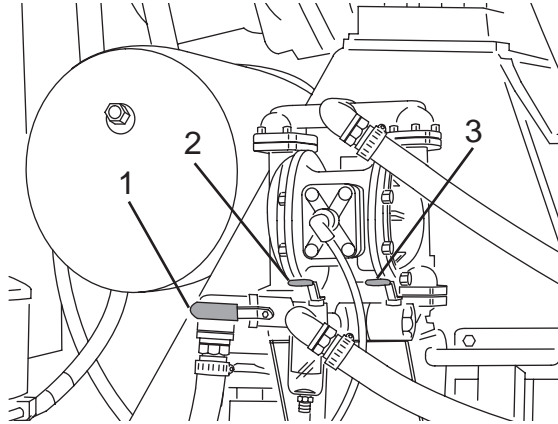

Figure 82
10. Close the main tank ball valve (Figure 82, Item 2) and chemical tank ball valve (Figure 82, Item 1) (if equipped).
11. Open the purge valve (Figure 82, Item 3).